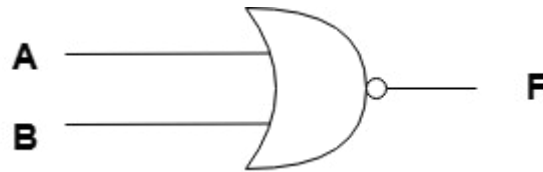

Figure 4.5: Two-input NOR Gate
- e. **NOR Gate:** The NOT Gate can be combined with the OR Gate to produce a NOR Gate (NOT-OR). It implies an OR gate with a complemented (inverted) output. It can also be represented diagrammatically, as shown in Figure 4.5. The circular shape at the output represents the inversion (change to opposite).
The NOR gate represented in **Figure 4.5** has two inputs (A and B) and one output (F). Below is a simple table for this two-input NOR gate.